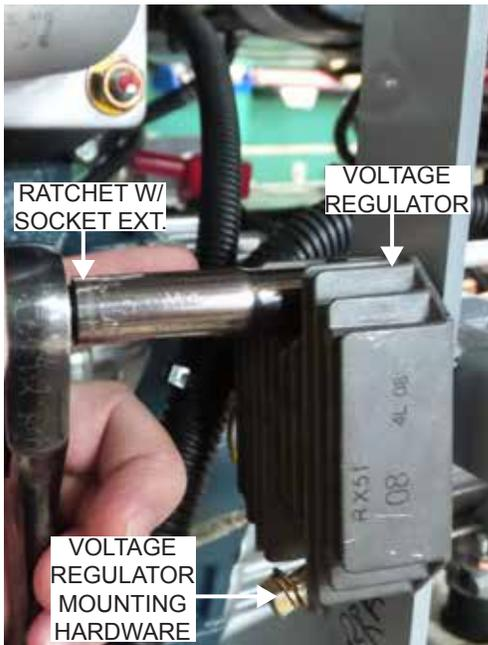

Figure 10. Voltage Regulator Removal
1. Using a 10mm socket, remove the two voltage regulator mounting screws, lock washers, and flat washers as shown in Figure 10.